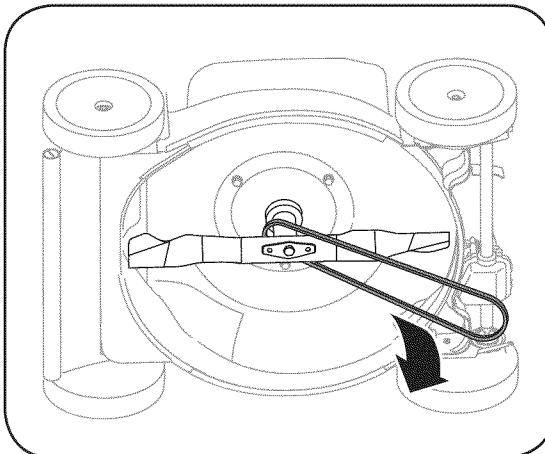

Figure 7
3. Push transmission up slightly and slide belt off the transmission pulley. Lift mower to access belt from underside of mower. Slide belt off of engine pulley and around the blade. See Figure 7.